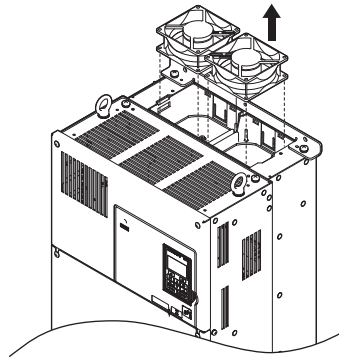

Figure 7.14 Removing the Cooling Fan: 4A0094, 4A0114
2. Lift up directly on the cooling fan as shown in Figure 7.14. Unplug the relay connector and release the fan from the drive.